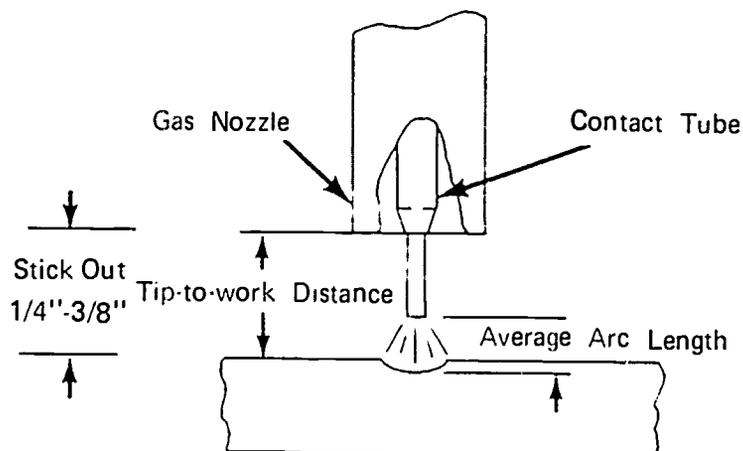

FIGURE 1
- C. Adjust stick out 1/4" to 3/8" and clean nozzle if needed (Figure 1)
- C. Adjust stick out 3/4" to 1" and clean nozzle if needed (Figure 1)